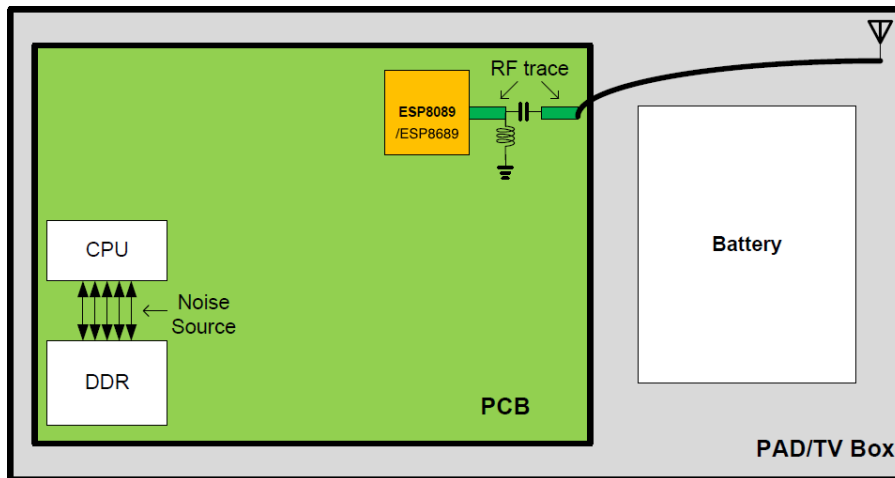

Figure 14: PAD/TV Box Layout
- As can be seen in Figure 14, ESP8689 should be placed near the edge of the PCB and away from the CPU and DDR, the main high-frequency noise sources. The distance between the chip and the noise sources decreases the interference and reduces the coupled noise.